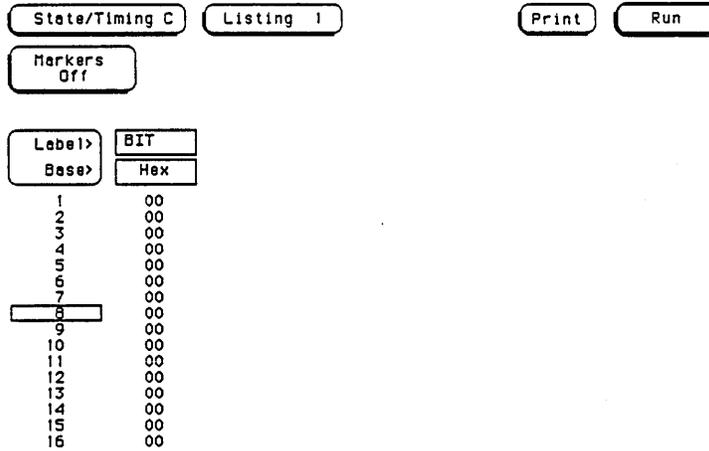

Figure 3-11. Listing Screen
6. Touch **Run**. The **Listing** screen will be displayed and will list 0 for the channels under test as in figure 3-11.